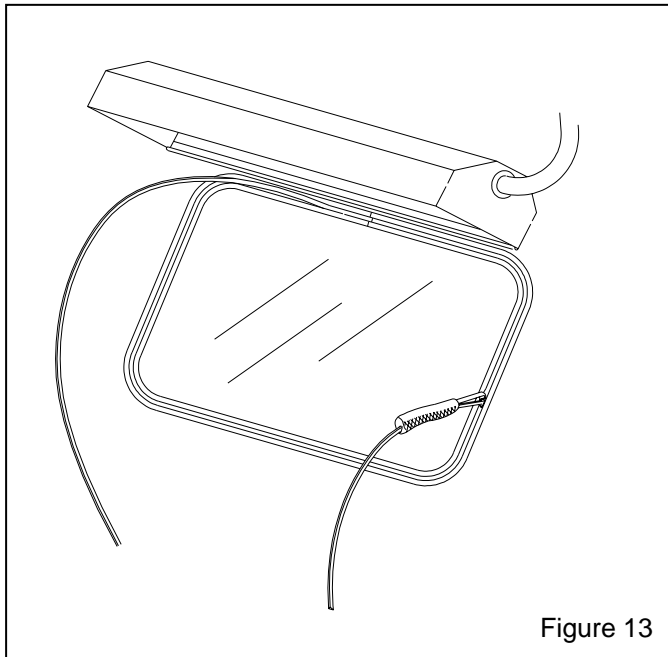

Figure 13
6.3.10. Feed the filler strip while pulling the tool through the top of the channel, down the side and across the bottom until that end of the strip is in place. Ref. Figure 13.